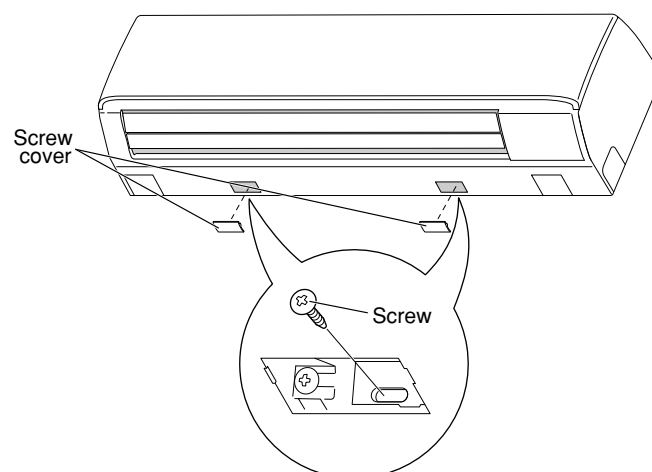

Fig. 43
- (1) Remove the screw cover on the bottom surface. (Fig. 43)
- (2) Fasten the frame to the rear panel using the 2 supplied tapping screws $5/32" \times 13/32"$ (4 x 10 mm). (Fig. 43)